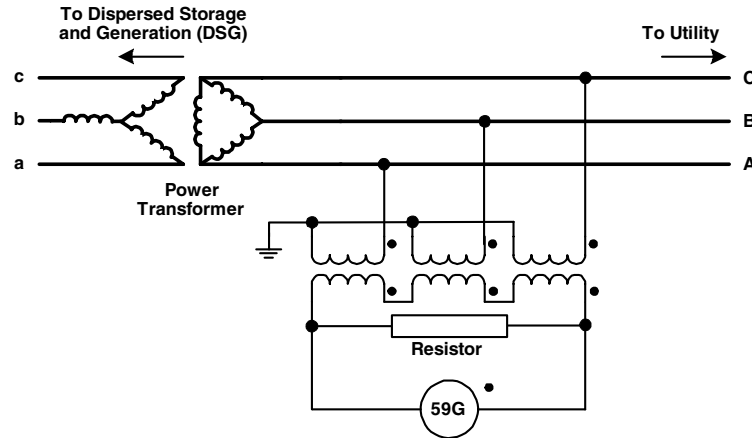
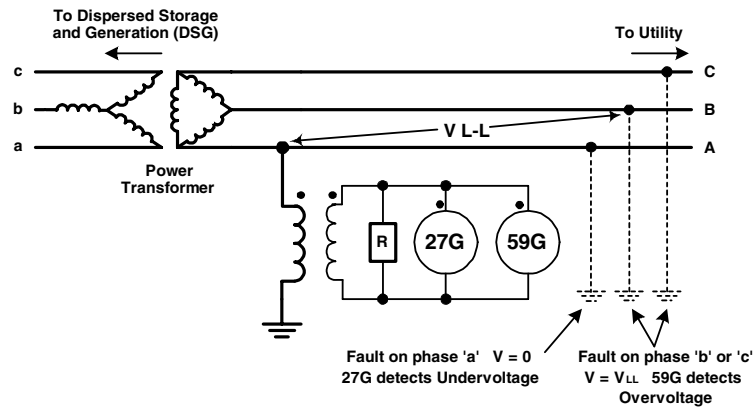

Figure 3-20 Ground Fault Detection Using a Broken-Delta VT and 59G
Figure 3-21 Ground Fault Detection Using One Phase-to-Ground VT and 59G/27G
Applications of 27G/59G, shown in Figure 3-20 and Figure 3-21 are for detecting ground faults on the ungrounded utility side of the power transformer. Protection schemes are applied based on using one or three voltage transformers (VT).
The 59G may be used to detect system phase voltage unbalance in conjunction with three VTs. To do so, the VT secondaries are connected “broken” delta; i.e., they are in delta except that one corner is open, and the 59G device is inserted (as illustrated in Figure 3-20).
In this case, voltage at 59G in Figure 3-20 will be zero, as long as the three-phase voltages are balanced, but will rise above zero with any zero-sequence unbalanced condition, as will be expected with any ground fault.
An alternate, but not recommended, scheme uses the 27G and 59G devices with one VT rated for line-to-line voltage, but connected from any one phase to ground as shown in Figure 3-21. This scheme will detect the most common line-to-ground faults on systems supplied by an ungrounded source, in the following manner: